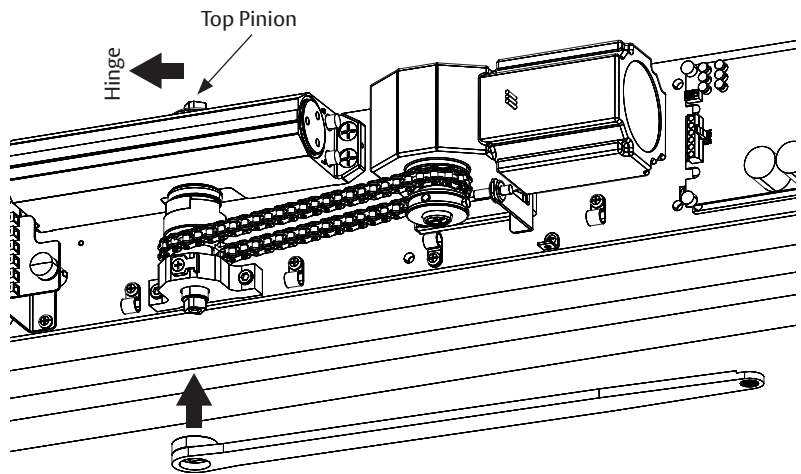

Figure 7
2. Using an adjustable wrench, rotate top pinion 45 degrees toward door hinge. You will feel resistance from spring. (Figure 7)